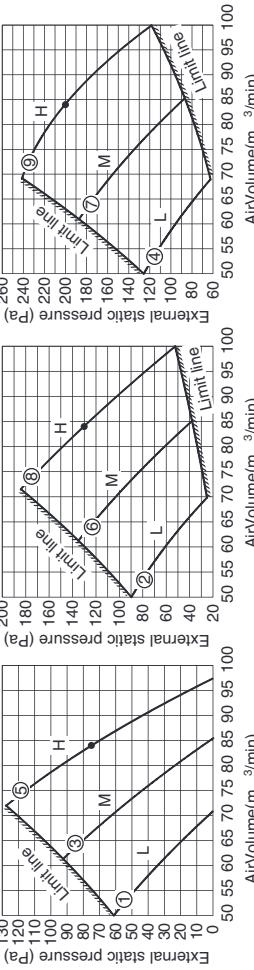

Fig. 10-2
- Refer to Tables 10-2, 10-3 and Fig. 10-2 for details on the relationship between the value of item code "5d" and the external static pressure.
Refer to Fig. 10-2 for the external static pressure setting range.
- Press the / buttons for the time to amend the values for the set data. Refer to Table 10-2 and Fig. 10-2 and select a value "5d", "5d3" or "5d1".